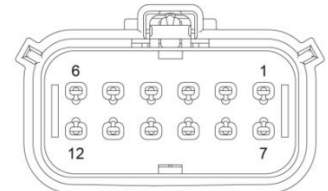

Figure 8 (X042, master charger and X043, slave charger)
- X042 on the master charger (Figure 8)
- X043 on the slave charger (if applicable) (Figure 8)